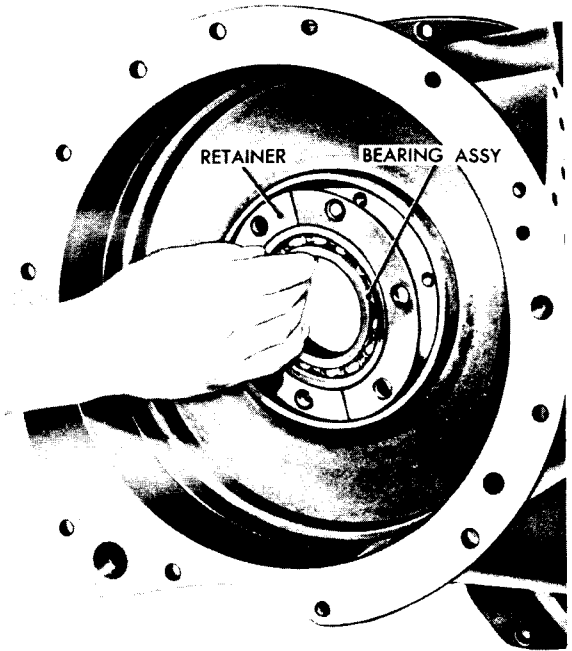

Fig. VI-32. Removing (or installing) bearing and retainer
a. Disassembly (items 24 thru 27, A, foldout 9, and items 2 and 5, B, foldout 9)
(1) Remove breather assembly 2 (B, foldout 9). Refer to sect. III, para 1b.
(2) Remove four self-locking bolts 27 (A, foldout 9) which retain split retainers 26.
(3) Tap the rear side of ball bearing 25 to dislodge the bearing and split retainers 26. Remove the bearing and retainers (fig. VI-32).
c. Assembly (items 24 thru 27, A, foldout 9, and items 2 and 5, B, foldout 9)
(1) If the steel hub 24 (A, foldout 9) was removed from the housing, install two 3/8-16 headless guidebolts into opposite bearing retainer bolt holes. Coat the outer circumference of the hub with white lead. Install the hub, alining the hub and housing bolt holes. Press or drive the hub into the housing until it is firmly seated. Remove the guide bolts.
(2) Engage the bearing retainers in the groove in the ball bearing outer race and install the bearing (fig. VI-32). Tap the bearing evenly into its bore. Aline the holes in the retainers with those in the hub and housing.